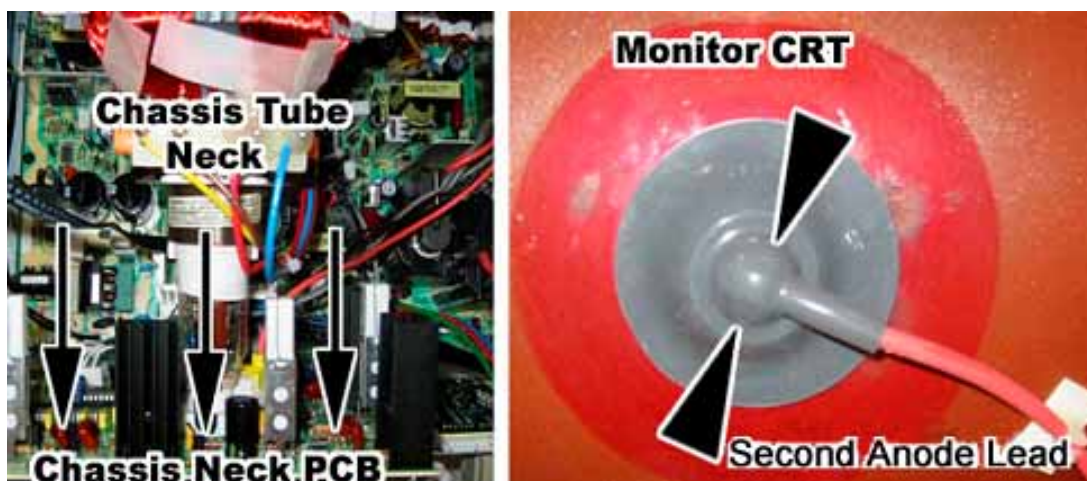

Figure 18. Disconnecting the Chassis Neck PCB and Second Anode Lead
5. Disconnect the second anode lead that connects to the CRT just above the Chassis Tube. Be very careful as the second anode lead can be charged with a **VERY HIGH VOLTAGE** even when powered OFF. Pinch the gray rubber flange and slightly push in to un-hook the metal prongs that hold the second anode lead to the CRT, shown by the arrows in Figure 18.